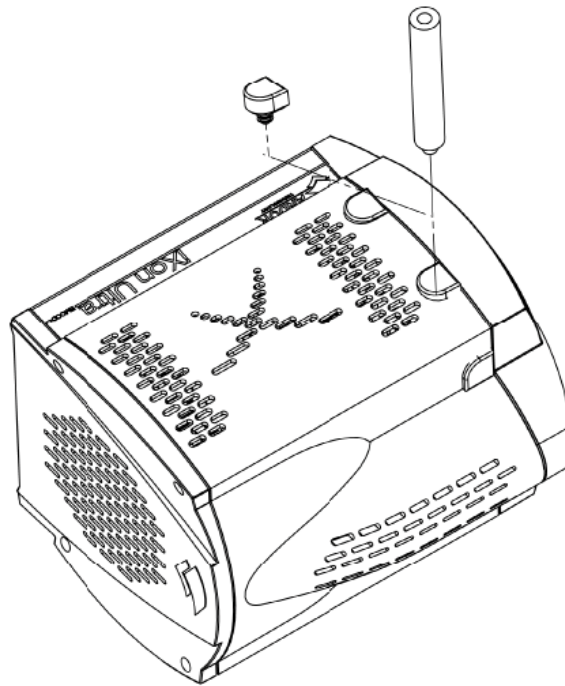

Figure 10: Attaching the Mounting Posts
1. Carefully remove the black grommet(s) as shown in **Figure 10**.